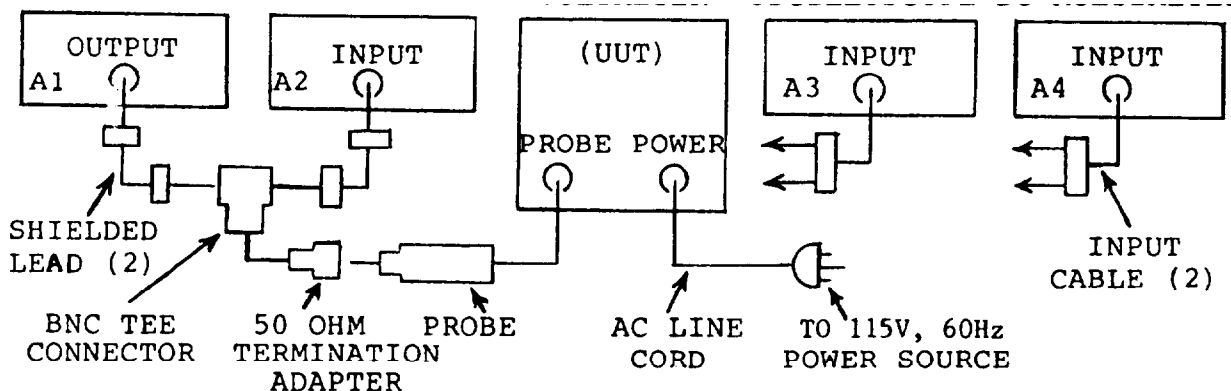

Figure 6-1. Pre-amplifier and post amplifier test setup.
(1) Oscillator
(2) AC voltmeter
(3) Oscilloscope
b. Test connections: Connect the equipment as shown in figure 6-1.
(1) Properly shield the voltmeter (U.U.T.), (see paragraph 5-2).
(2) Adjust the oscillator frequency to 200 KHz and using the AC voltmeter set to 0.001 volt full scale range position, adjust the oscillator's output to 1mV.
(3) Verify the POWER switch is set to ON. Set the RANGE switch to the 0.001 volt full scale range position.
(4) Connect the oscilloscope, set to 5 volt/centimeter, from amplifier board terminal (3TP7) to chassis.
(5) Disconnect oscillator from probe. Adjust the SET REF control voltmeter for minimum amplitude reading on the oscilloscope and should read 1.7 V to 2.3V P-P.
(6) Reconnect the oscillator to the probe. With 1mV applied to the probe, measure on the oscilloscope 13.5V to 16.5V P-P.
(7) Disconnect oscilloscope. Leave other equipment connected in order to perform the voltage accuracy test, paragraph 6-5.
(6) Disconnect equipment as shown in figure 6-1.